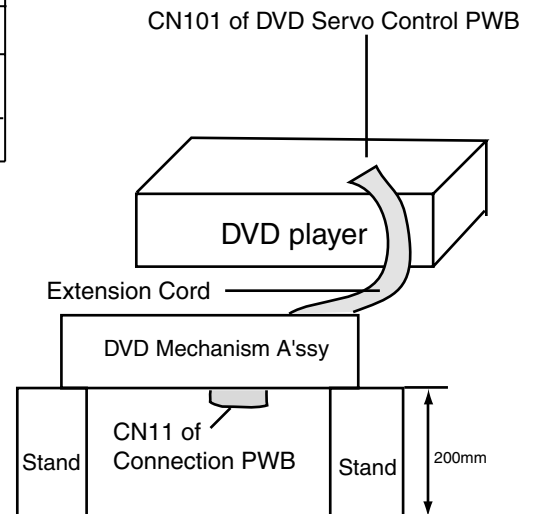

Fig.1
1. Correction on page 2-18 Fig. 1